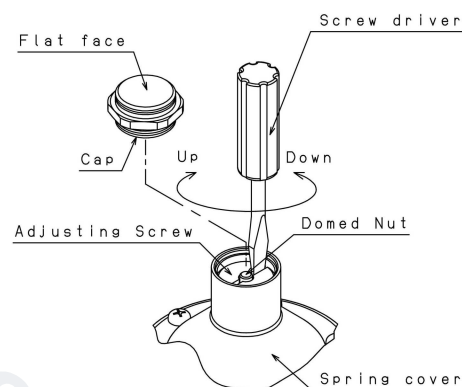

Fig. 4
- (2) Remove the cap. By checking the pressure gauge, turn the adjusting screw to adjust the reduced pressure to a desired level. (Fig.4)